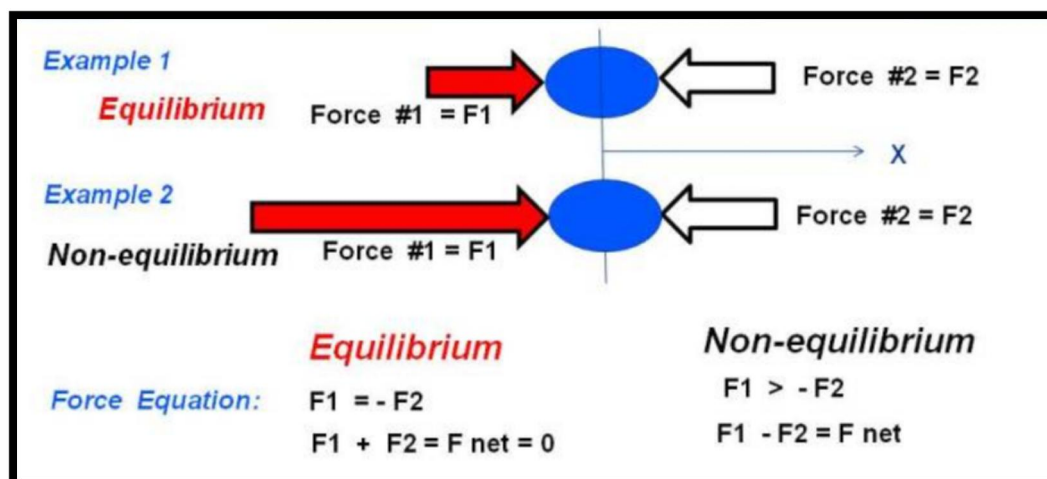

Figure 2.11 Equilibrium and non-equilibrium factor
- Figure 2.11** shows a relationship between equilibrium and a non-equilibrium.